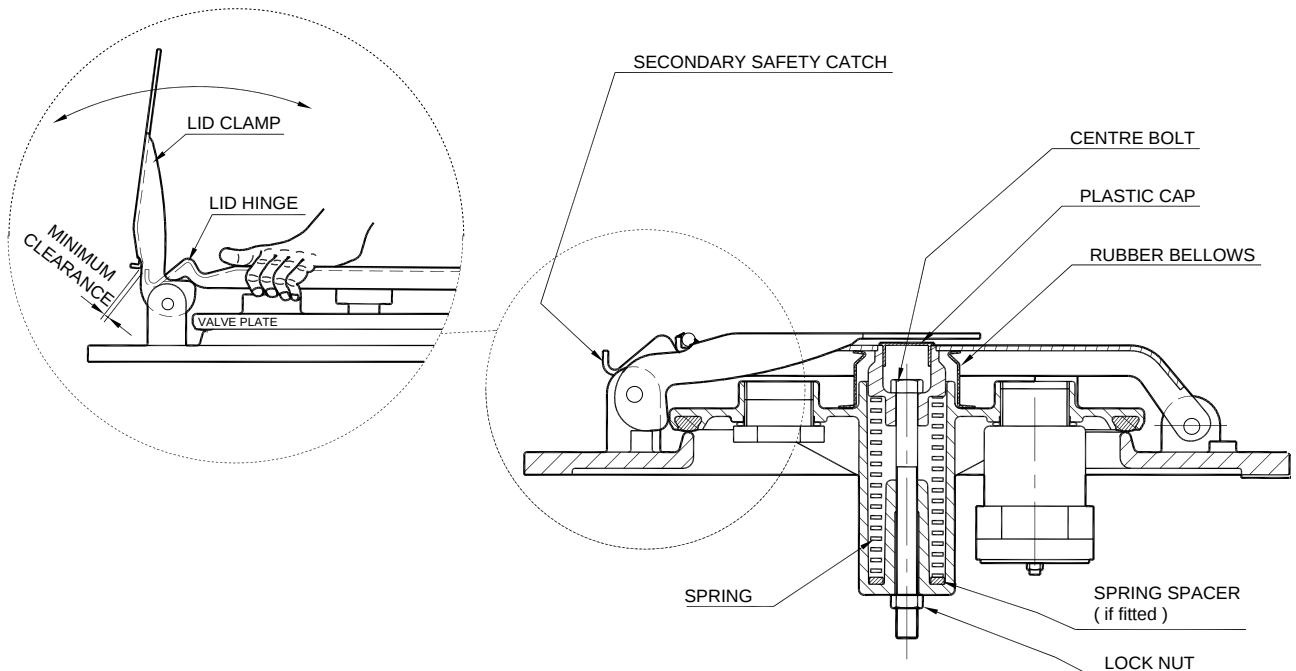

Figure 1 – Adjustment of the fill cover assembly
- 3.1.2.6 Finally, with the fill cover held firmly closed, check the adjustment of the fill cover as follows. Swing the lid clamp over the end of the lid hinge, see figure 1. It should just touch the tip of the safety catch as it hinges over. If it does, close the manhole cover. If it does not, then the fill cover needs adjustment, follow the instructions in section 3.3.
3.2.2 To dismantle the fill cover, it is necessary to remove the plastic plug fitted to the adjusting bolt aperture in the top of the lid hinge and also the lock nut on the end of the centre bolt, see figure 1. The fill cover should be held in the OPEN position. It can then be safely dismantled by unscrewing the centre bolt with a socket spanner.
3.2.4 To improve weather resistance the plastic plug has been fitted to all Style 50 series of manhole covers manufactured after July 92. Additionally a rubber bellows has been fitted between the fill cover and the lid hinge from January 1993 onwards, see figure 1. However the bellows cannot completely prevent the ingress of water or cleaning chemicals particularly when high pressure washing systems are used. Where ingress of water occurs, it may be necessary to increase the frequency of inspection.
- 3.3.1 With the fill cover assembly in the closed position, swing the lid clamp over the end of the lid hinge, see figure 1. It should just touch the tip of the secondary safety catch as it hinges over
- 5.2.4 The adjustment of the fill cover assembly must be checked. With the fill cover held firmly closed, swing the lid clamp over the end of the lid hinge, see figure 1. It should just touch the tip of the secondary safety catch as it hinges over. If the fill cover requires adjustment, see section 3.3.
6.3.3 The adjustment of the fill cover assembly must be checked. With the fill cover held firmly closed, swing the lid clamp over the end of the lid hinge, see figure 1. It should just touch the tip of the secondary safety catch as it hinges over. If the fill cover requires adjustment, see section 3.3.